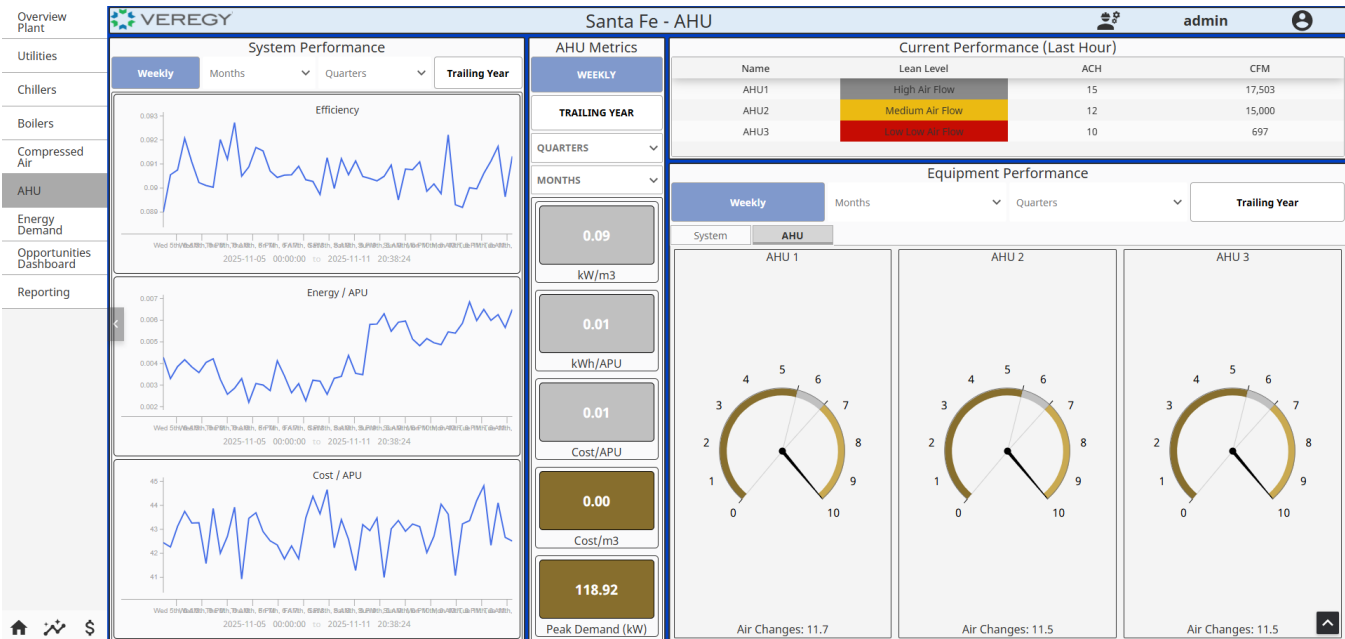

FIGURE 11: AHU DASHBOARD W/ GAUGES
- AHU Tab - Gauge View (Figure 11):